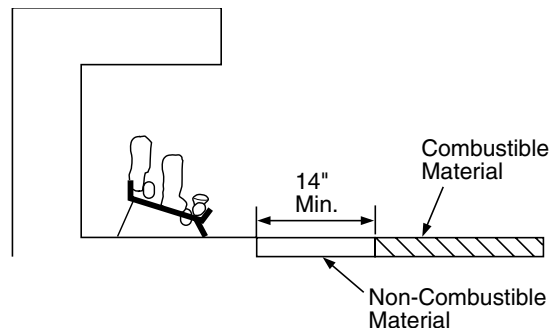

Figure 8 - Minimum Fireplace Clearances If Installed at Floor Level
A. If installing appliance on the floor level, you must maintain the minimum distance of 14" to combustibles (see Figure 8).